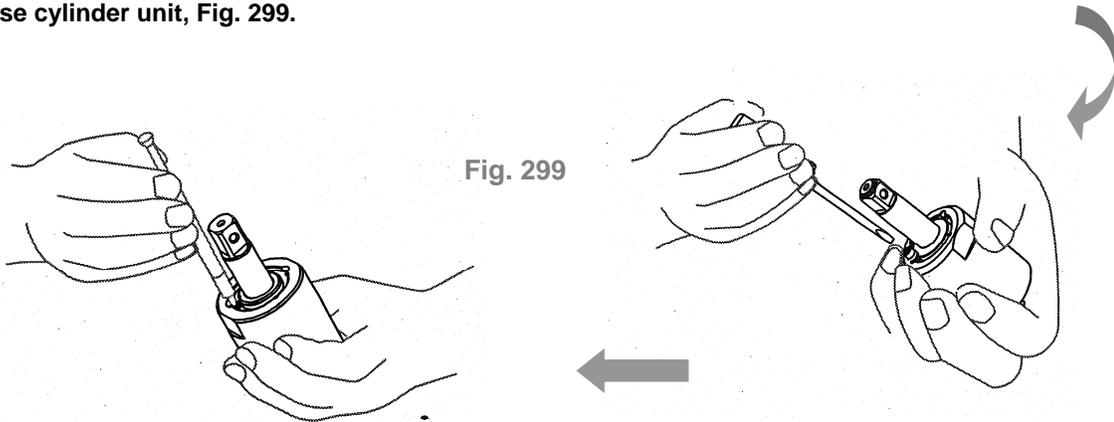

Fig. 299
⑤ Loosen the greasing screw again and use an injector to draw out a little amount of oil (see Table 38) . Finally, tighten the greasing screw back to the pulse cylinder unit, Fig. 299.